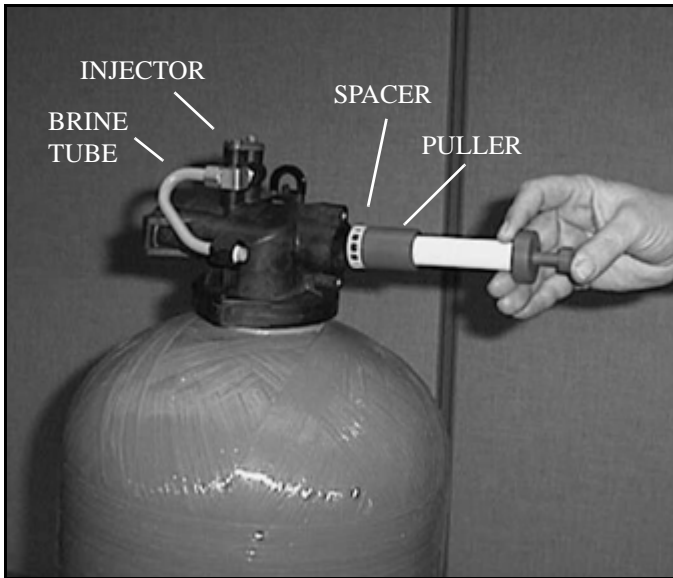

Figure 3 Removing Spacer From Valve Body
8. Insert the pin end of the spacer tool into the valve body with the pins retracted (button pulled back). Push the tool tight against the spacer and push the button in, (see Fig. 3). When the button is pushed in, the pins are pushed out to engage the 1/4 dia. holes in the spacer. Remove the tool from the valve body. The spacer will be on the end. Pull the center button back, the pins will be retracted and the spacer can be removed from the spacer tool.